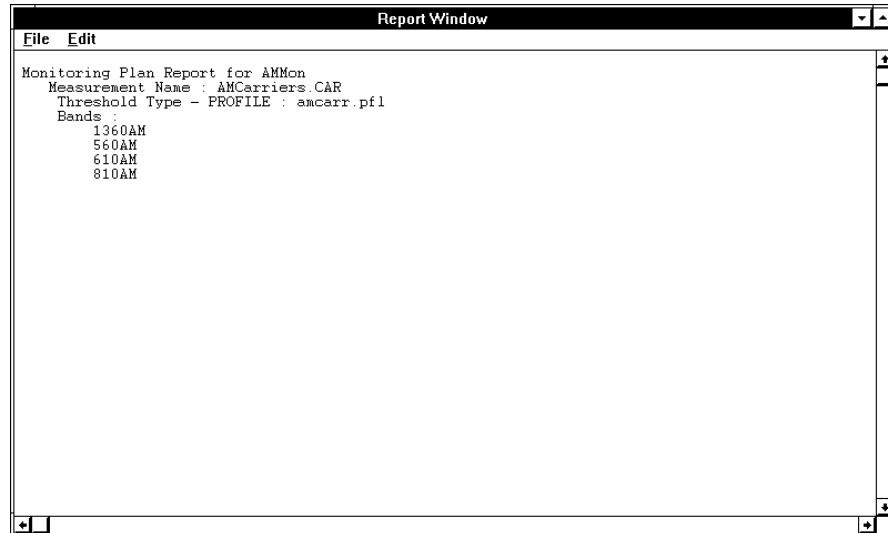

Figure 8-23: Typical Monitoring Plan Report
3. Highlight the desired **Monitoring Plan** to select it for generating a report. To generate and view a report, click on **Report** to open the **Monitoring Plan Report** window (Figure 8-23).